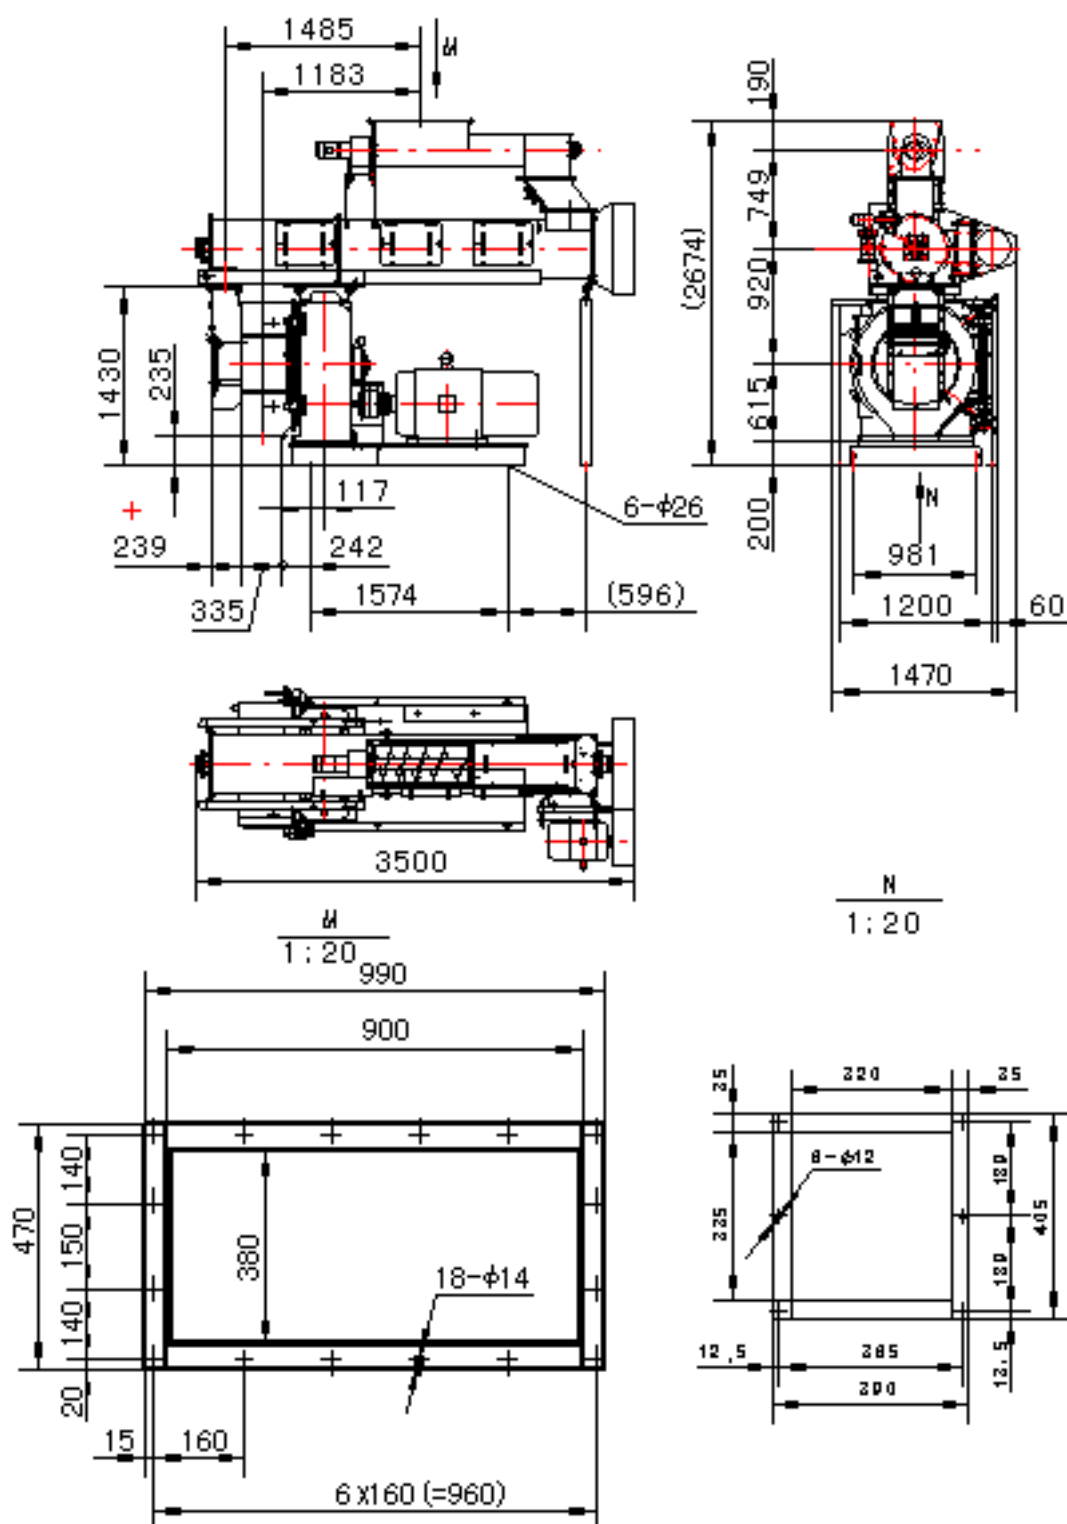

Fig.4 SZLH508 PELLETING MILL SAMPLE
4.1.2 The equipment must be installed on the firm foundation. Dig the foundation according to the base size on the schematic diagram (see Figure 4), pour cobble concrete and screw the foundation bolt on. Some good practice should be followed when installing the pellet mill on the floor to make sure that vibration of machine during the normal run can be absorbed after the installation.